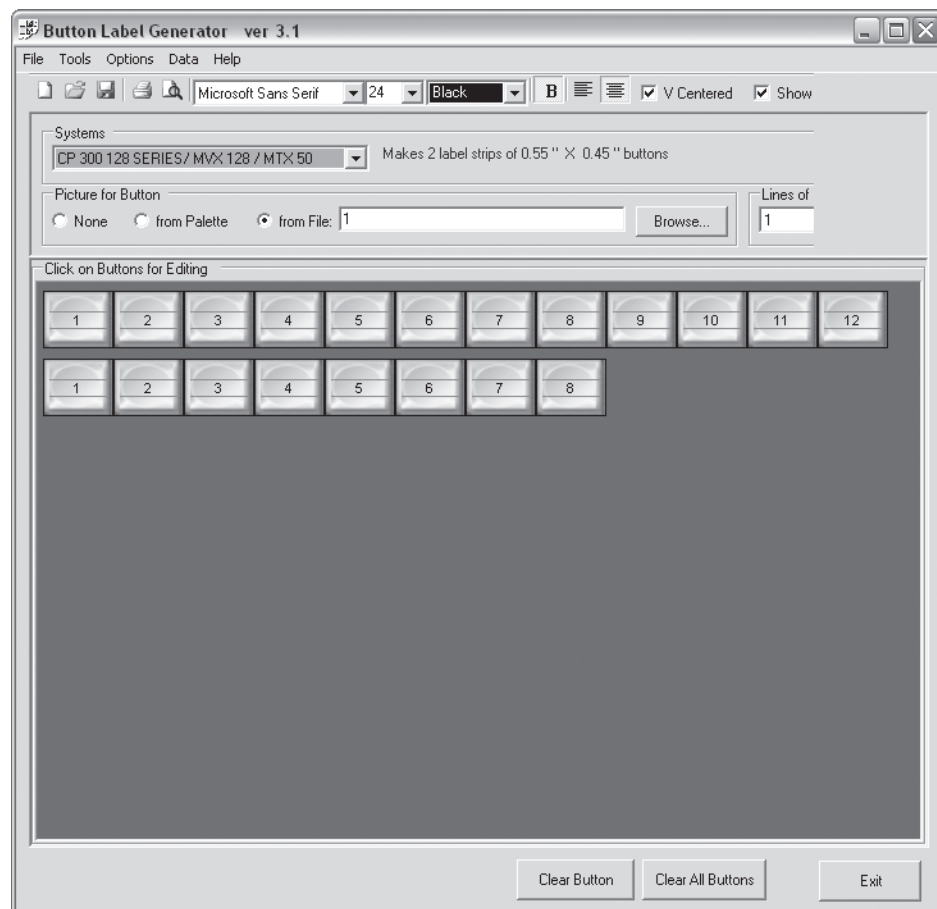

Figure 5-13 — Extron's Button-Label Generator window
1. To run the Button-Label Generator program, double-click on the Button-Label Generator icon (shown at right) in the Extron Electronics group or folder, and click OK when prompted. The Button-Label Generator window appears (figure 5-13).